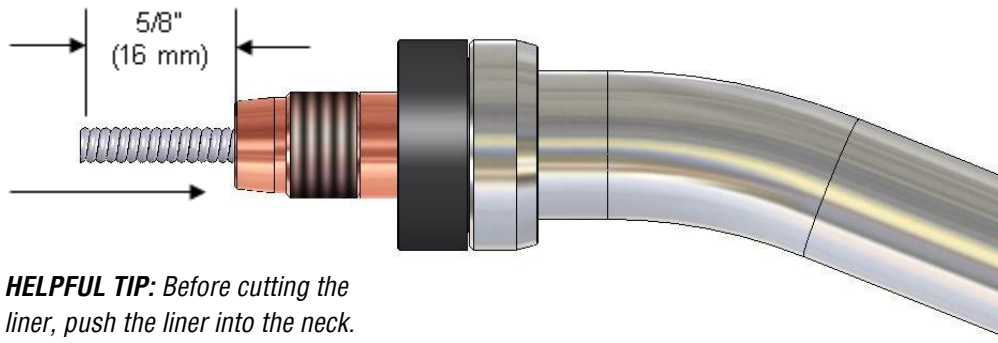

Figure 10 – The recommended cut length for the QUICK LOAD liner is 5/8" (16 mm). Make sure the liner is pushed into the neck when this length is determined.
4. At the front of the neck, trim the liner. See **Figure 10**.